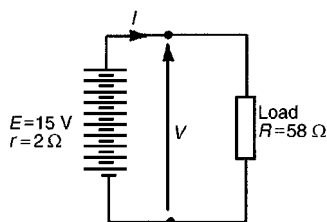

Figure 4.4
- (a) For ten cells, battery e.m.f., $E = 10 \times 1.5 = 15\ \text{V}$, and the total internal resistance, $r = 10 \times 0.2 = 2\ \Omega$. When connected to a $58\ \Omega$ load the circuit is as shown in Fig. 4.4